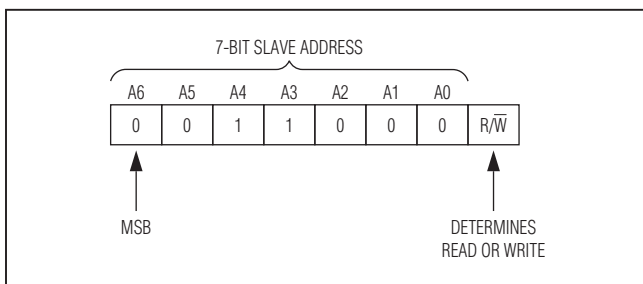

Figure 9. DS2465 Slave Address
The slave address to which the DS2465 responds is shown in Figure 9. The slave address is part of the slave address/control byte. The last bit of the slave address/control byte (R/W) defines the data direction. When set to 0, subsequent data flows from master to slave (write access); when set to 1, data flows from slave to master (read access).
**Data Valid:** With the exception of the START and STOP condition, transitions of SDA can occur only during the low state of SCL. The data on SDA must remain valid and unchanged during the entire high pulse of SCL plus the required setup and hold time ( $t_{HD:DAT}$  after the falling edge of SCL and  $t_{SU:DAT}$  before the rising edge of SCL; see Figure 9). There is one clock pulse per bit of data. Data is shifted into the receiving device during the rising edge of the SCL pulse.